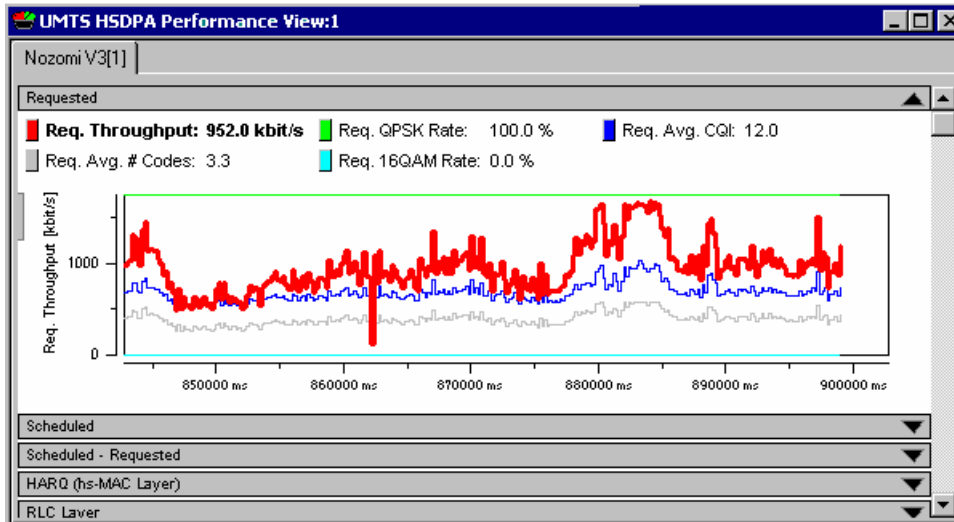

Fig. 4-65 UMTS HSDPA Performance View
The *Requested* throughput (see Fig. 4-65 above) is the data throughput that the mobile requests according to the measured channel quality. The requested throughput is calculated from the CQI messages that the mobile transmits on the UL HS-DPCCH; see *UMTS HSDPA UL HS-DPCCH View* on p. 4.77. The results are averaged over the number of subframes (100) shown in the *UMTS HSDPA HS-DPCCH* view.